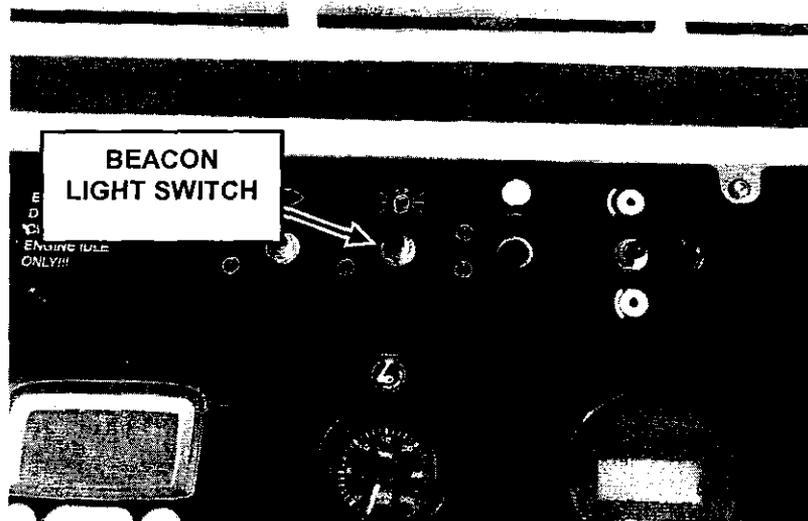

FIGURE 5
The beacon light should be activated every time the machine is started and remain activated until the machine is shut down. The activation switch can be found at the operator's console (figure 5).
11. Using the front and rear elevation controls, lower the machine elevation until the bottom ladder rung is no more than 23.6 in. (600 mm) from the ground (figure 5).